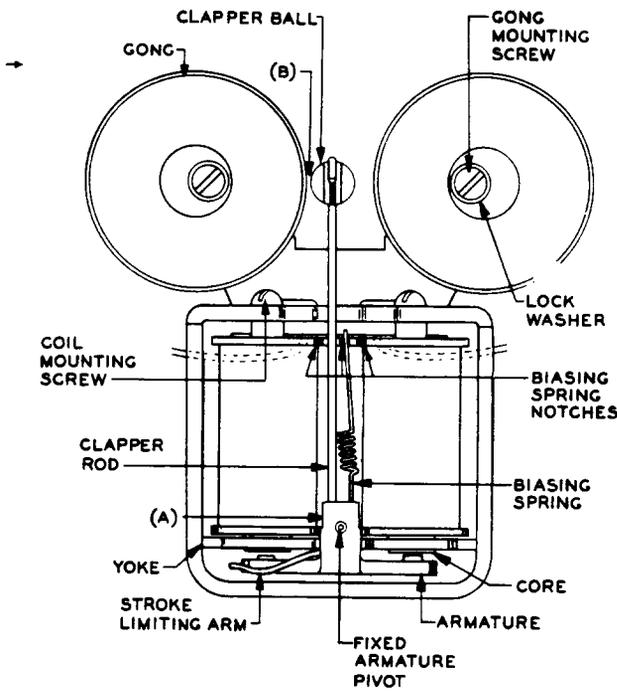

Fig. 4 - Parts of B-type Ringer Except B3B Ringer
- (3) Fig. 4(B) - One application to each of the two strike points of the clapper ball.
(3) B-type Ringers: Fig. 4 and 5 - The airgap, when the high stop pin is in contact with the core, and the play in the bearings is taken up in a direction to reduce the airgap, shall be
→ (b) Fig. 4(A) and 5(A) (B-type ringers only) - The end play of the armature shall be